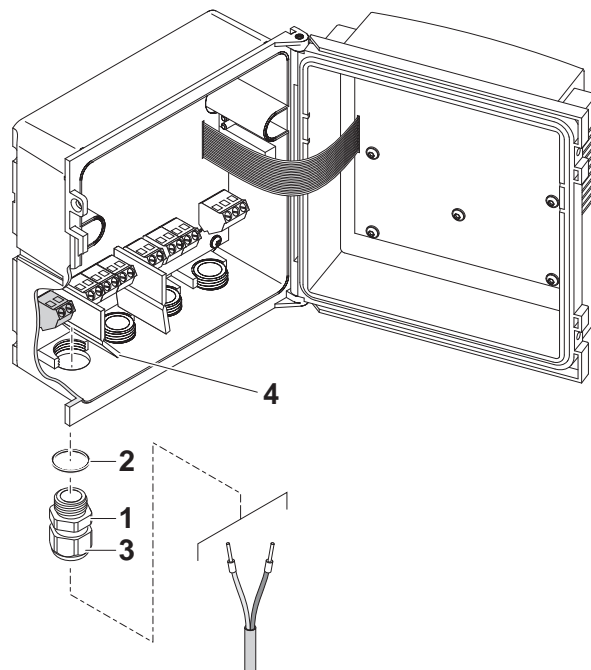

Fig. 3-29 Inserting the 24V AC/DC line
| 5 | Screw a cable gland (pos. 1 in Fig. 3-29) with sealing ring (pos. 2) into the enclosure below the 24 V AC/DC connection.            |
| 9 | Tighten the coupling ring (pos. 3 in Fig. 3-29).   |